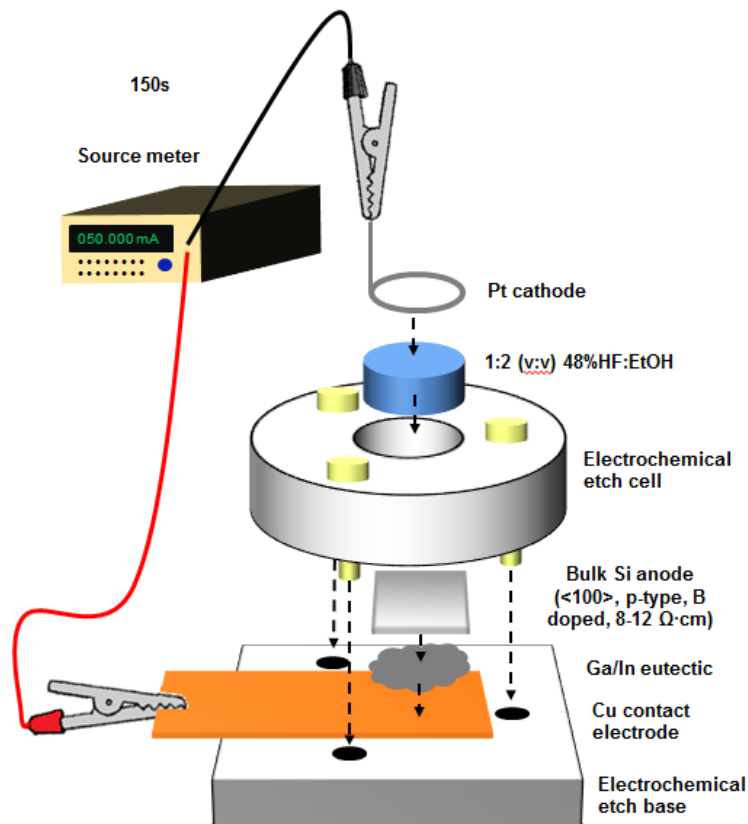

Figure 1: Electrochemical etching system (Not drawn to scale)
6. Place the gallium-indium eutectic coated side of the crystalline silicon wafer in contact with the copper contact electrode and assemble the electrochemical etching system as shown in Figure 1.